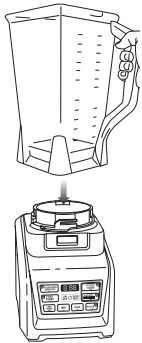

Fig. 1
- 3 Align and lower the Pitcher onto the motor base. (Fig. 1) Handle should be aligned slightly to the right of the "LOCK" symbol on the motor base.